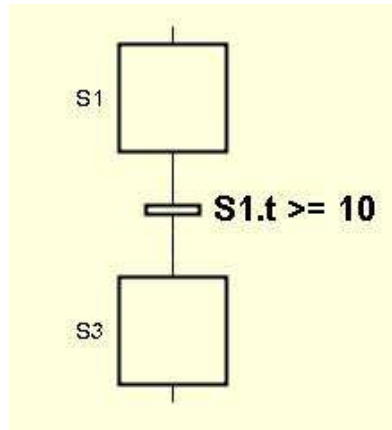

Figure 7 Transition
**Transitions** Transitions are associated with conditions or events that should be true in order for the function chart to change state, see Figure 7.